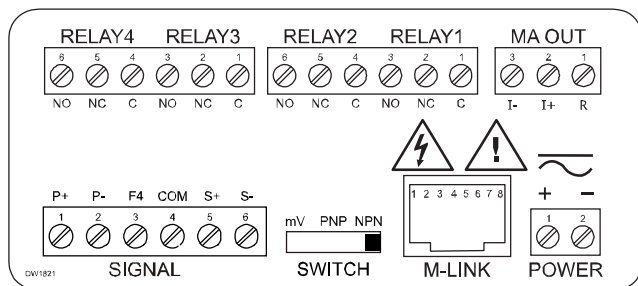

Figure 6: Connector Labeling for Fully Loaded PD6300
Power connections are made to a two-terminal connector labeled POWER on Figure 6. The meter will operate regardless of DC polarity connection. The + and - symbols are only a suggested wiring convention.
Signal connections are made to a six-terminal connector labeled SIGNAL on Figure 6. The COM (common) terminal is the return for the input signals.
Serial communications connection is made to an RJ45 connector labeled M-LINK on Figure 6. For interfacing to the ProVu[®], use the PDA1232 for RS-232, the PDA1485 for RS-485, or the PDA8008 for USB. The same port is used for interfacing with all expansion modules (*e.g.* external relays, digital I/O).
Relay connections are made to two six-terminal connectors labeled RELAY1 – RELAY4 on Figure 6. Each relay's C terminal is common only to the normally open (NO) and normally closed (NC) contacts of the corresponding relay. The relays' C terminals should not be confused with the COM (common) terminal of the INPUT SIGNAL connector.